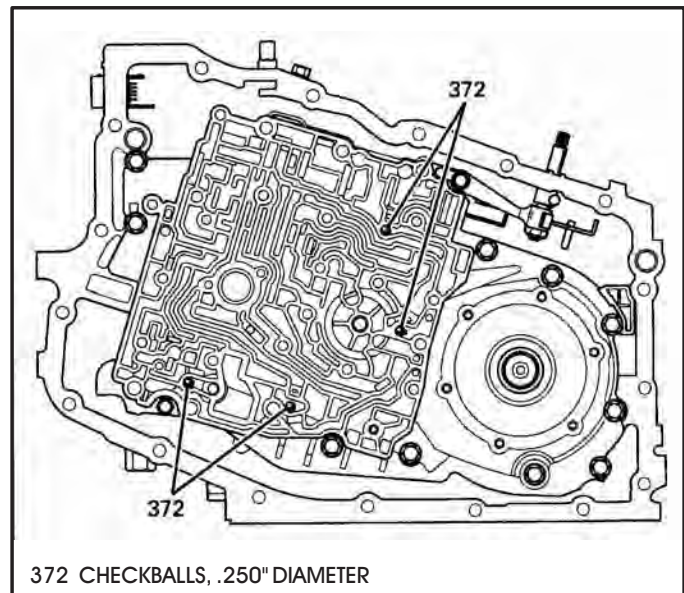

Figure 52
24. Remove the checkballs from the channel plate, as shown in Figure 52.